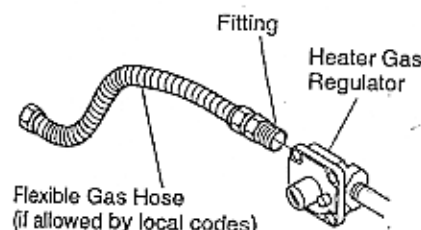

Figure 11-Attaching Flexible Gas Hose to Heater Gas Regulator
1. Apply pipe joint sealant lightly to make threads to be threaded into gas regulator. Connect approved flexible gas hose to gas regulator of heater (see Figure 11).